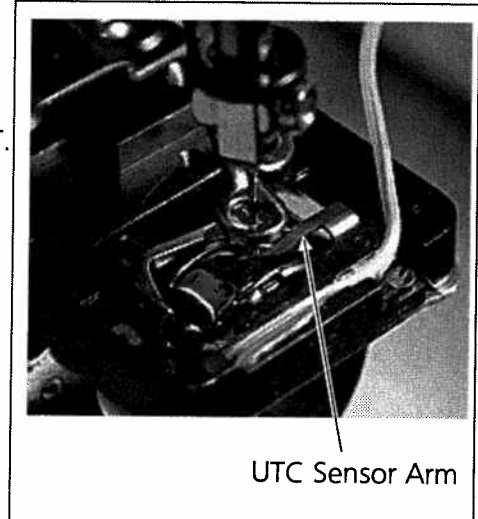

Figure 5-5
5. Gently move the UTC sensor arm shown in Figure 5-5. If the sensor is functional, it will beep. (This is not a test for UTC adjustment.)